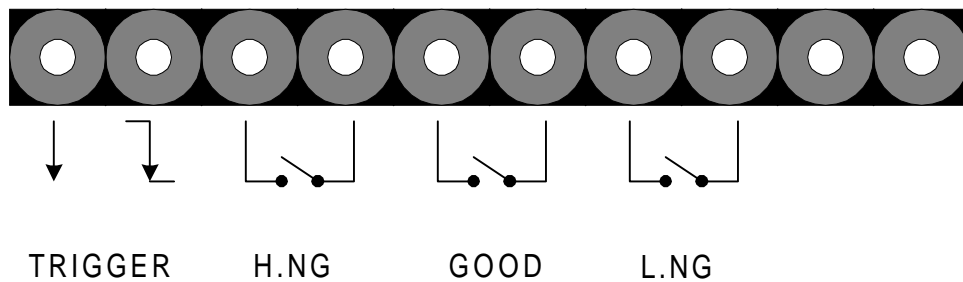

Figure 2-7: 1867 Remote I/O Strip
Figure 2-7 illustrates the remote control connector located on the rear panel of the 1867 megohmmeter. The connector is a standard 10-screw terminal strip. There are three (3) output connections: Fail High (H.NG), Fail Low (L.NG) and Pass (GOOD). The outputs are normally open relays.